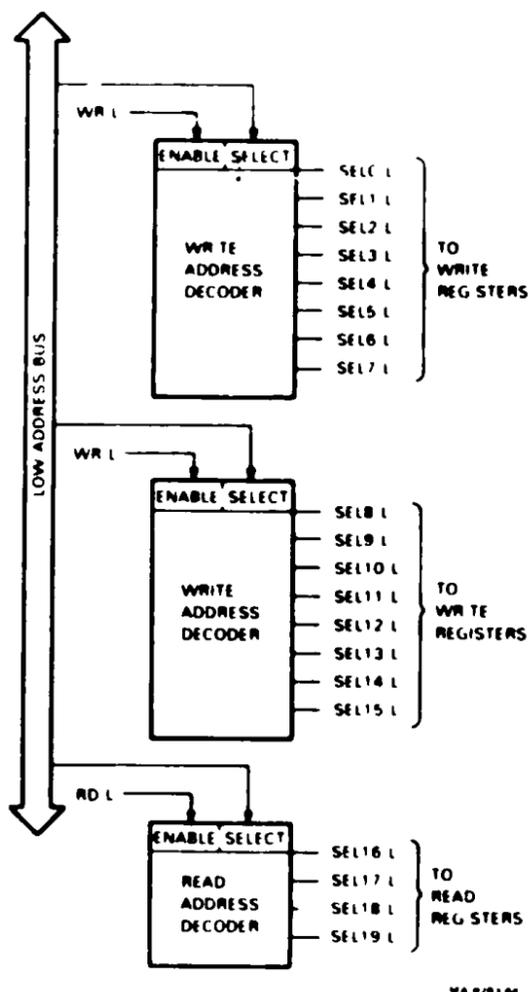

Figure 2-9 Address Decoders with Low Address Bus
Figure 2-9 shows the three address decoders and the low address bus. Refer to this figure for the following discussions.
2.3.4.1 Write Address Decoders (Figure 2-9) - There are two write address decoders. One enables eight port multiplexer control registers. The other enables a UART multiplexer control register, three discrete latch signals, and an LED display register. Both have output lines selected by the three lowest address bits (A0, A1, A2) on the low address bus. Both are enabled by the fourth address bit (A3) and the WR (write) signal. To prevent the two decoders from being enabled at the same time, the fourth address bit is inverted at the input of one of the decoder's enable circuitry.